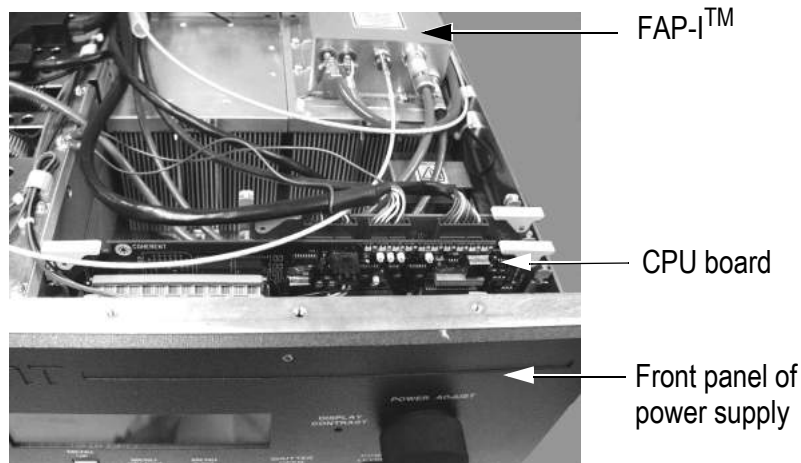

Figure 5.3-1. Location of CPU Board
3. Move Jumper JP 9 to the shorted position. This jumper is located approximately halfway down the right edge of the CPU board. Refer to Figure 5.3-1 and Figure 5.3-4 to locate the CPU board and JP 9. This will give access to the Service Level menus in Chameleon Software after the power has been cycled.
1. To access the software EPROM, the CPU board will first need to be disconnected and removed from the power supply. Refer to Figure 5.3-1 to locate the CPU board.